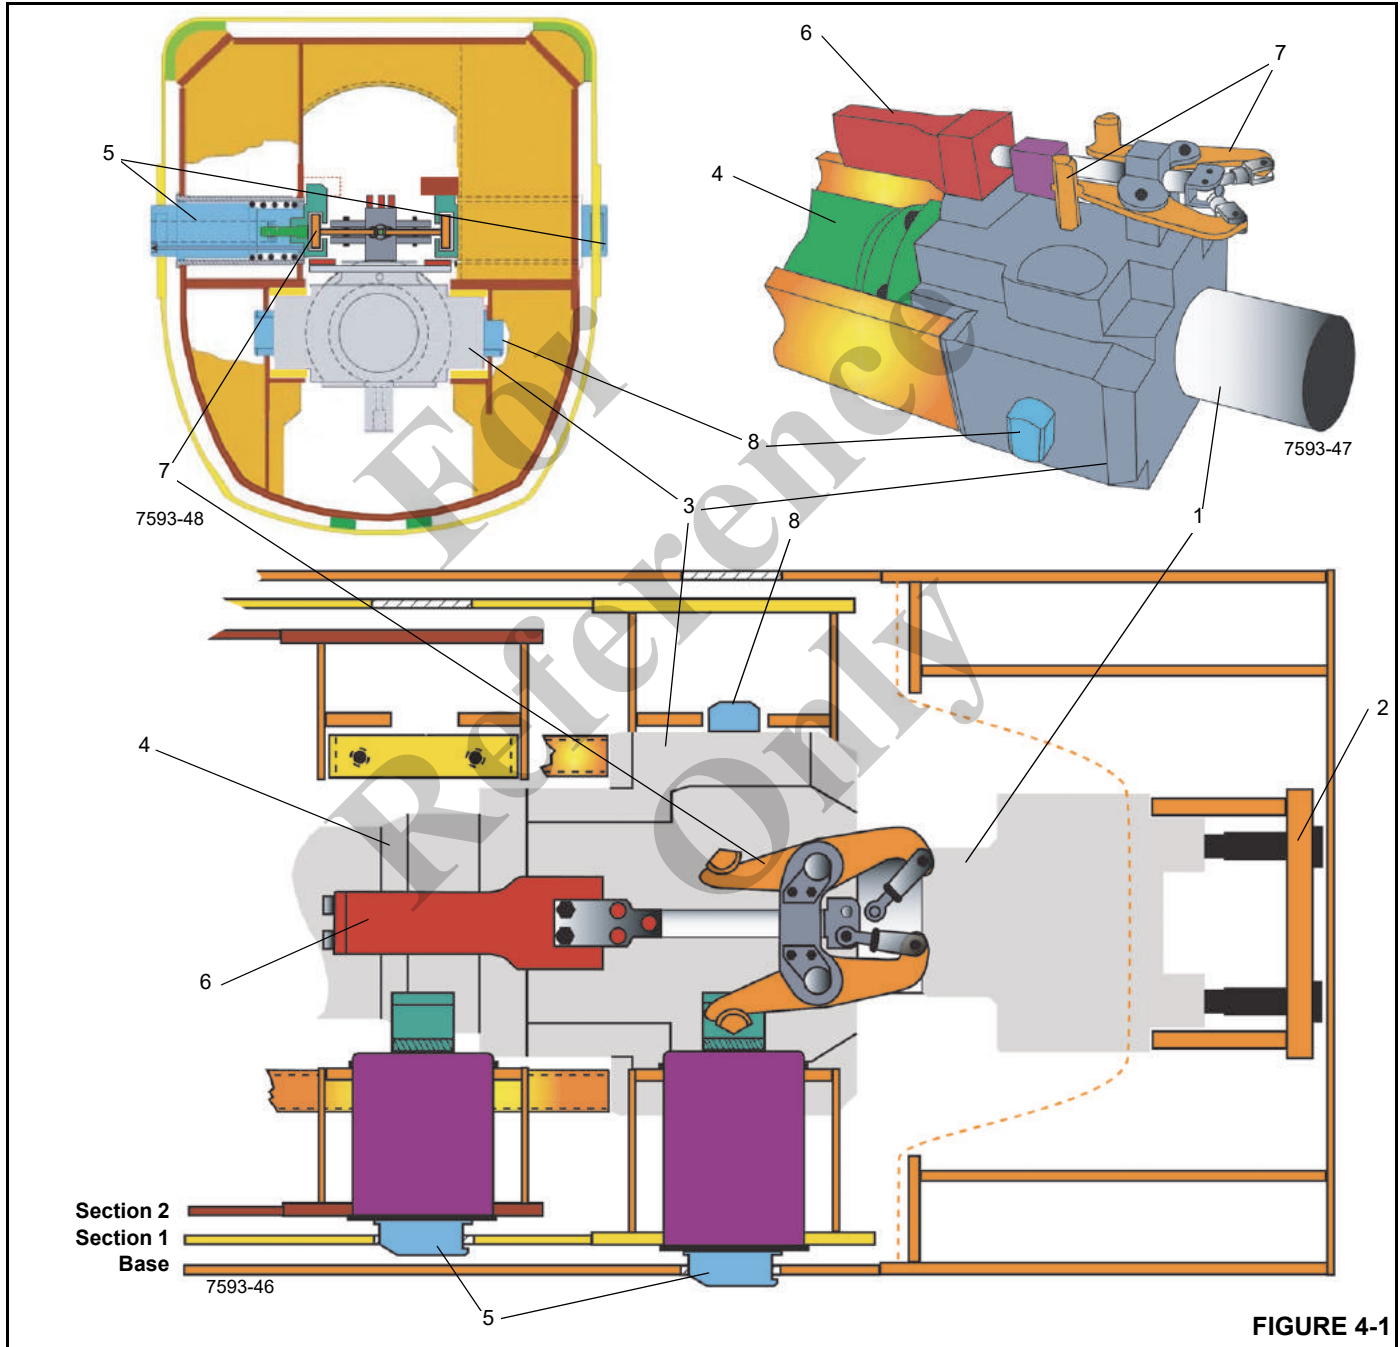

FIGURE 4-1
Extension and retraction of the boom is controlled by a telescope cylinder and a pinning system. The telescope cylinder rod (1) (Figure 4-1) is secured to the rear of the boom's base section (2). The telescope cylinder barrel is free to ride inside the boom sections. The pinning system consists of a pinning block (3) that rides on the telescope cylinder barrel (4) and section locking pin assemblies (section pins) (5) located in the rear of each moveable boom section.